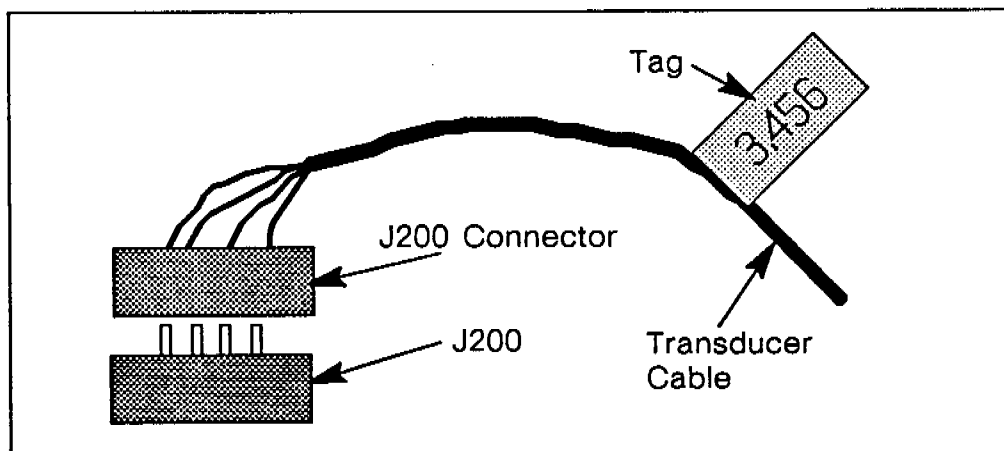

Fig. C.4 Transducer Tag
1. Install the replacement PCB by reversing the removal steps. Make sure that all of the cables are properly connected. Record the 4-digit (X.XXX) number printed on the pressure transducer tag (Fig. C.4). It will be necessary to re-enter this number into instrument memory when power is switched back on.
2. Connect the transducer cable at J200 on the system PCB. Record the number printed on the cable tag. It will be needed for setting the transducer range (see Fig. C.4).